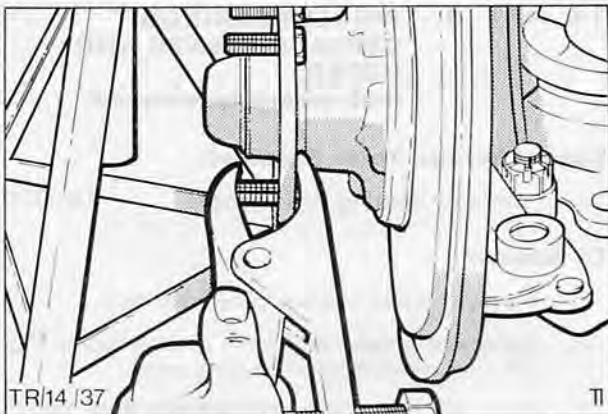

Fig. 37. Removing wheel stud using Special Service Tool 13 006
3. Remove front road wheel. Using ball joint separator, Fig. 37, Special Service Tool No. 13 006 press stud out of hub flange or on models where tool does not fit, tap out stud with mallet.